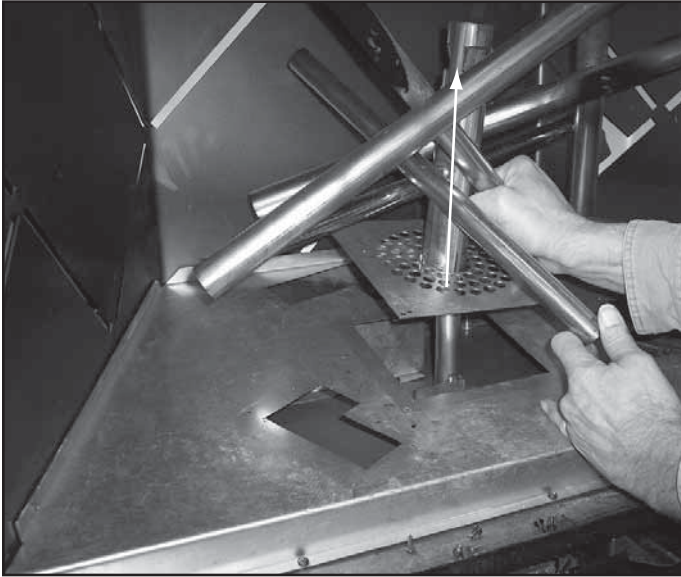

Figure 3.10 Remove Decorative Steel Log Assembly
- Remove decorative steel log assembly by removing 3 screws, lifting up and out (Figure 3.10).